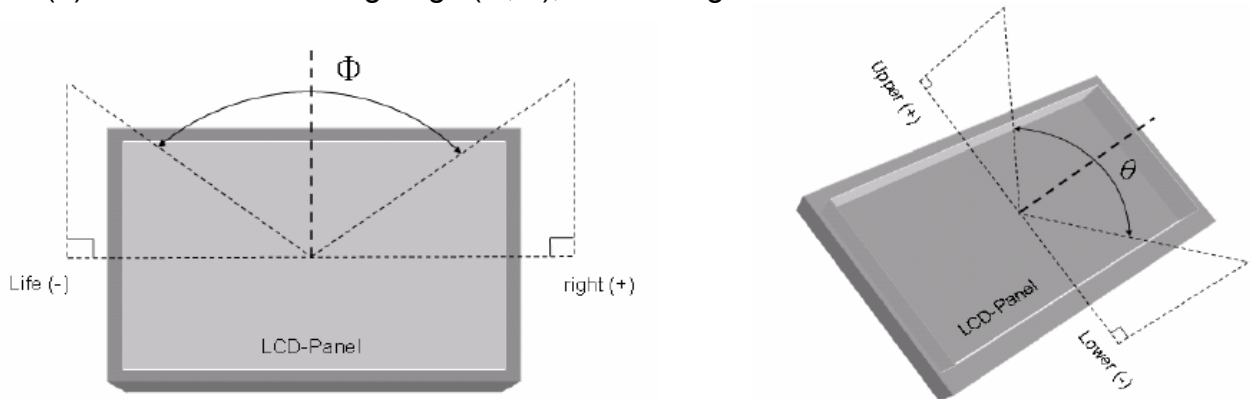

Fig9-2 Definition of Viewing Angle
- (4) Definition of Viewing Angle( $\Theta, \Phi$ ), refer to Fig9-2 as below :